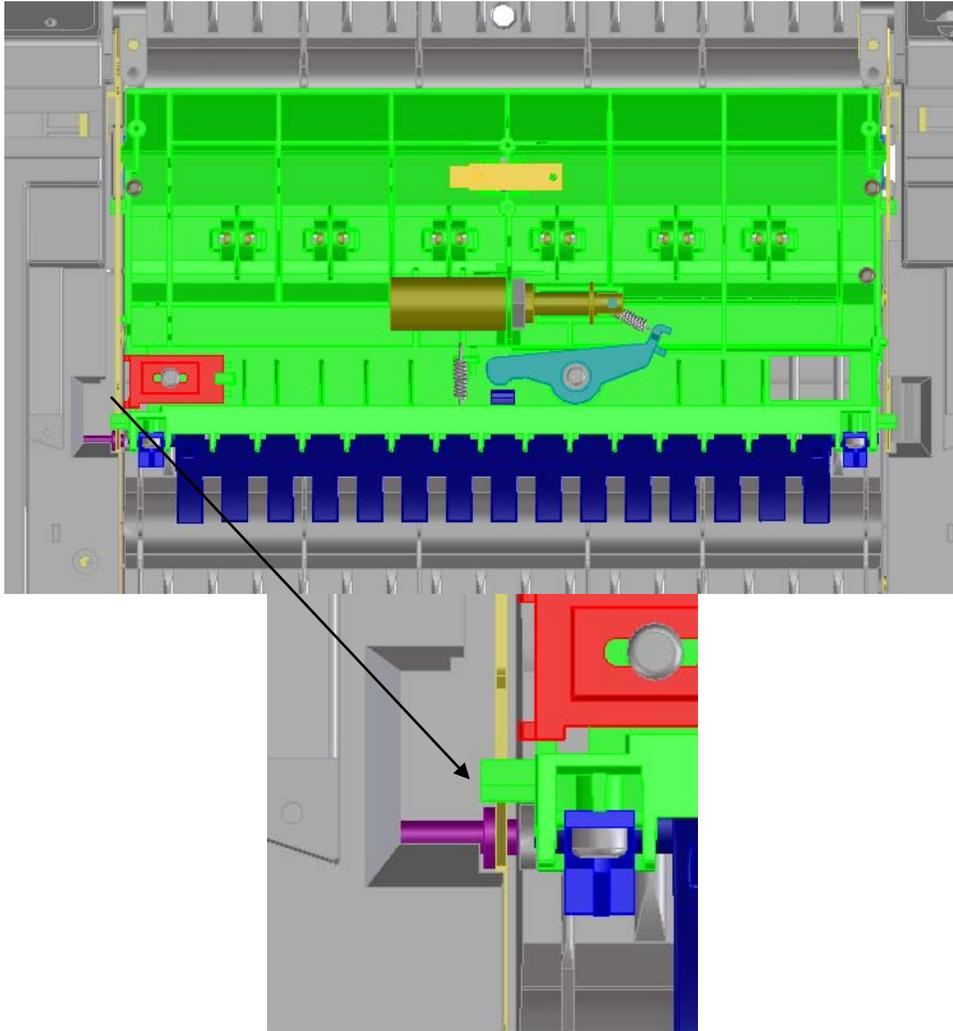

Figure D-1. Slots in Top Case and posts on Cleanout
- 2) Place the assembly down in the correct orientation. There are slots in the *Top Case* on either side that posts on the *Diverter Support* fit into (see Figure D-1). The assembly is oriented with the curved face toward the back of the machine.